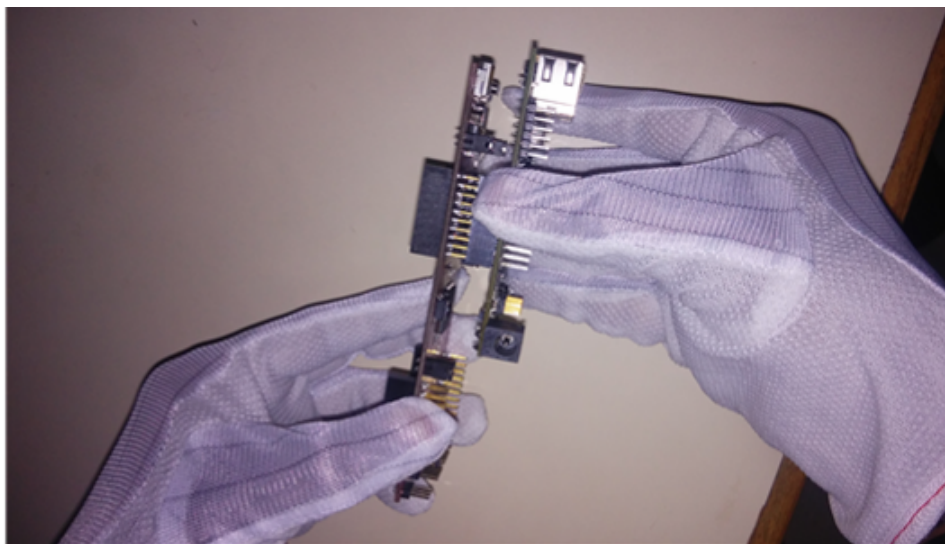

Figure 23. AMIC110 ICE and F28069M LaunchPad Connection (2 of 2)
2. Press the boards together gently to avoid PCB warping issues (see Figure 23).